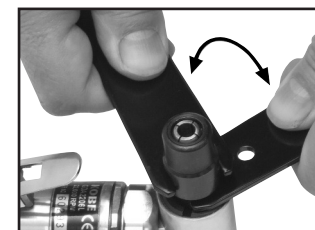

Fig. 4
3. Insert a spanner onto the drive shaft to hold it firmly whilst using the other spanner to loosen the collet nut (See fig. 4).